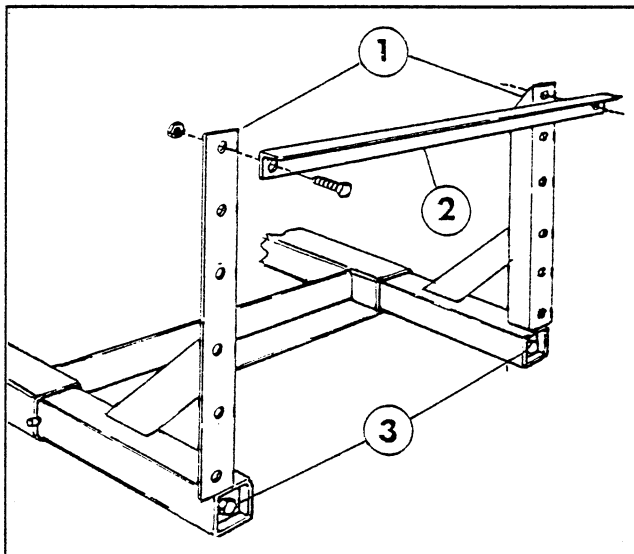

FIG. 9
1. Apply a heavy coating of grease to the tubes of the two Boom Mount Assemblies and insert them into the Vehicle Frame as shown in FIG. 9.